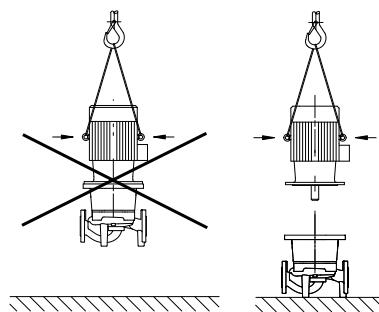

Fig. 20: Transporting the motor
- Only use lifting eyes on the motor for carrying the weight of the motor and not for carrying the entire pump (Fig. 20).**